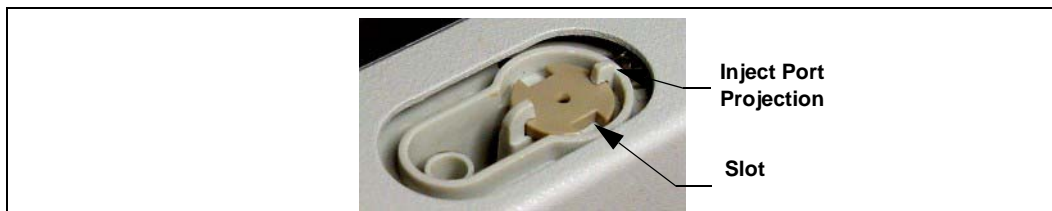

Figure 5-17. Inject Port
8. Rotate the bottom fitting until the slots are perpendicular to the projections on the inject port (see Figure 5-17).